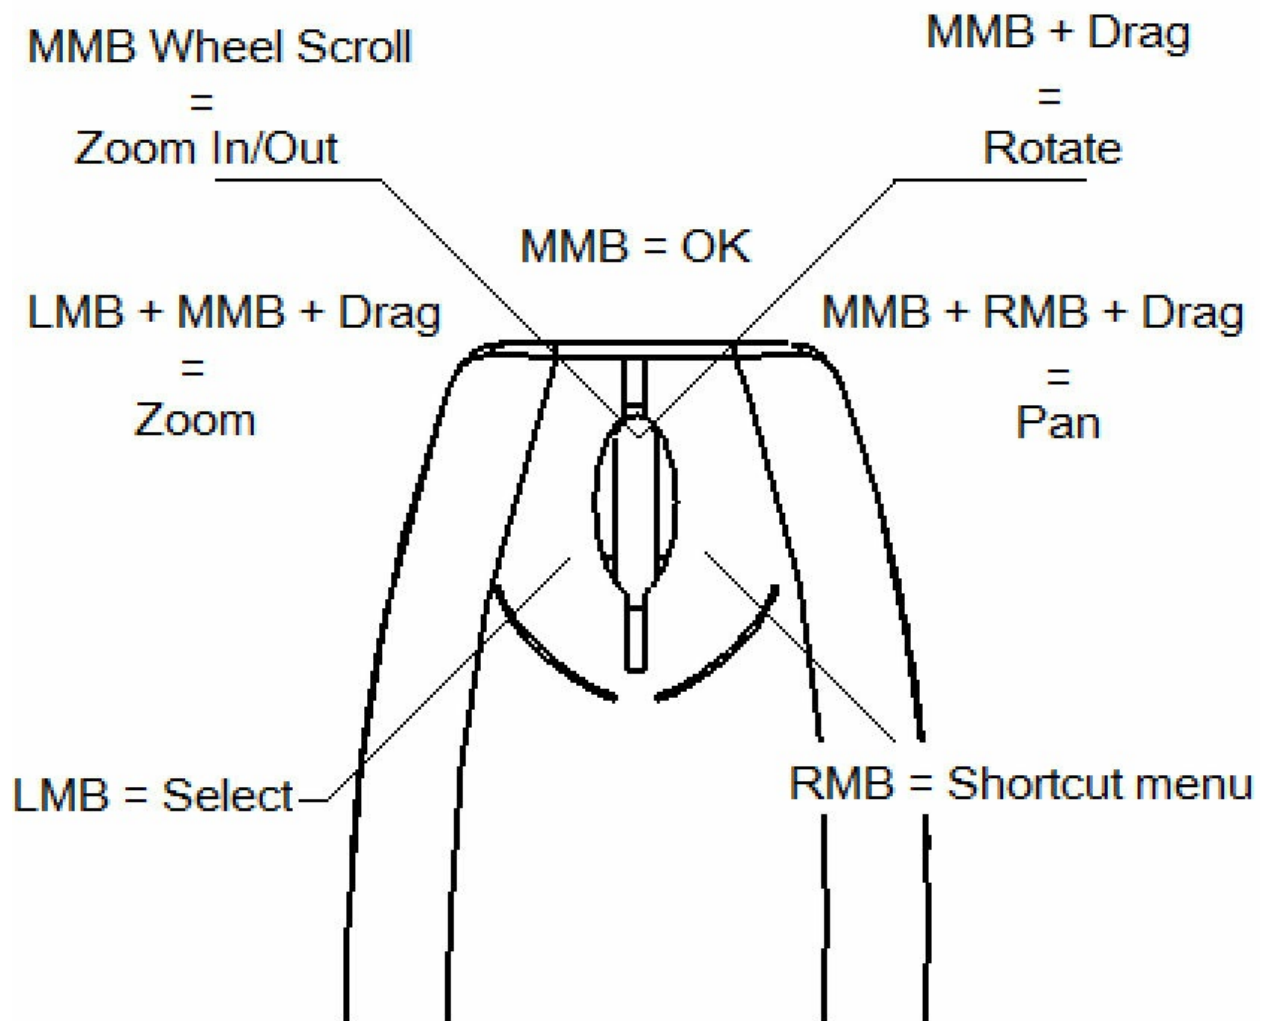

Figure 1-10 *Functions of the mouse buttons*
3. Press and hold the middle and the right mouse buttons to invoke the **Pan** tool. Next, drag the mouse to pan the model. You can also invoke the **Pan** tool by first pressing and holding the SHIFT key and then the middle mouse button. Figure 1-10 shows the use of a three button mouse in performing the pan functions.
4. Press and hold the middle mouse button to invoke the **Rotate** tool. Next, drag the mouse to dynamically rotate the view of the model in the geometry area and view it from different directions. Figure 1-10 shows the use of the three button mouse in performing the rotate operation.
5. Press and hold the CTRL key and then the middle mouse button to invoke the **Zoom** tool. Alternatively, press and hold the left mouse button and then the middle mouse button to invoke the **Zoom** tool. Next, drag the mouse dynamically to zoom in or out the model in the geometry area. Figure 1-10 shows the use of the three mouse buttons in performing the zoom functions.